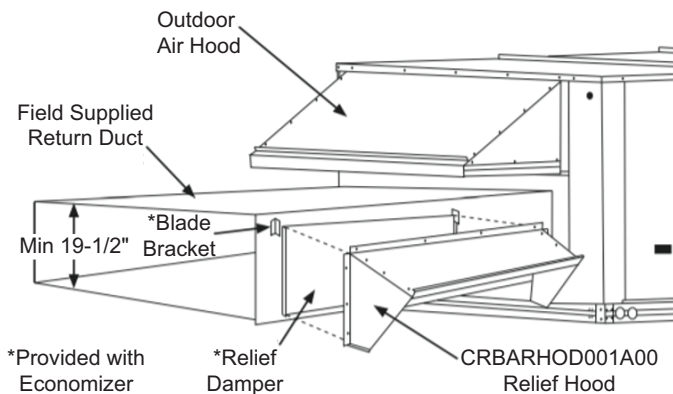

Fig. 35 — Installing CRBARHOD001A00 Over Relief Damper
4. Using the blade brackets, install the relief damper onto the side of the return duct (see Fig. 35). The two brackets and relief damper are provided with the economizer.
Caulk the backside of the mating flanges to ensure a water-tight seal. Install the CRBARHOD001A00 over the relief damper and screw to the return duct, as illustrated in Fig. 35.